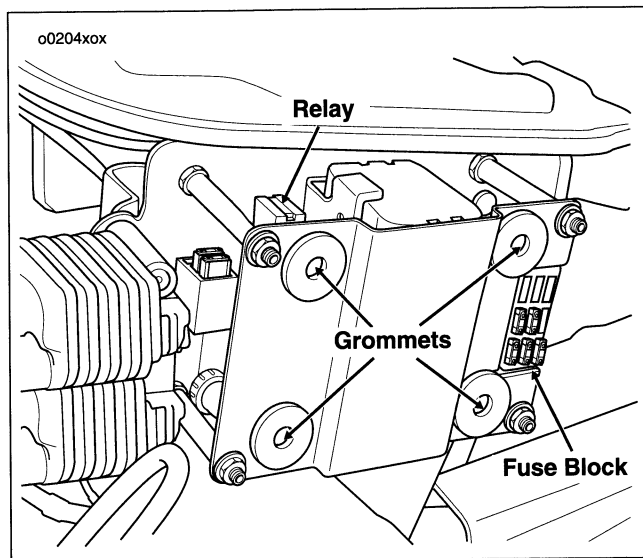

Figure 45. Fuse Block
2. See Figure 45. Gently pull left side cover from frame (no tools required).